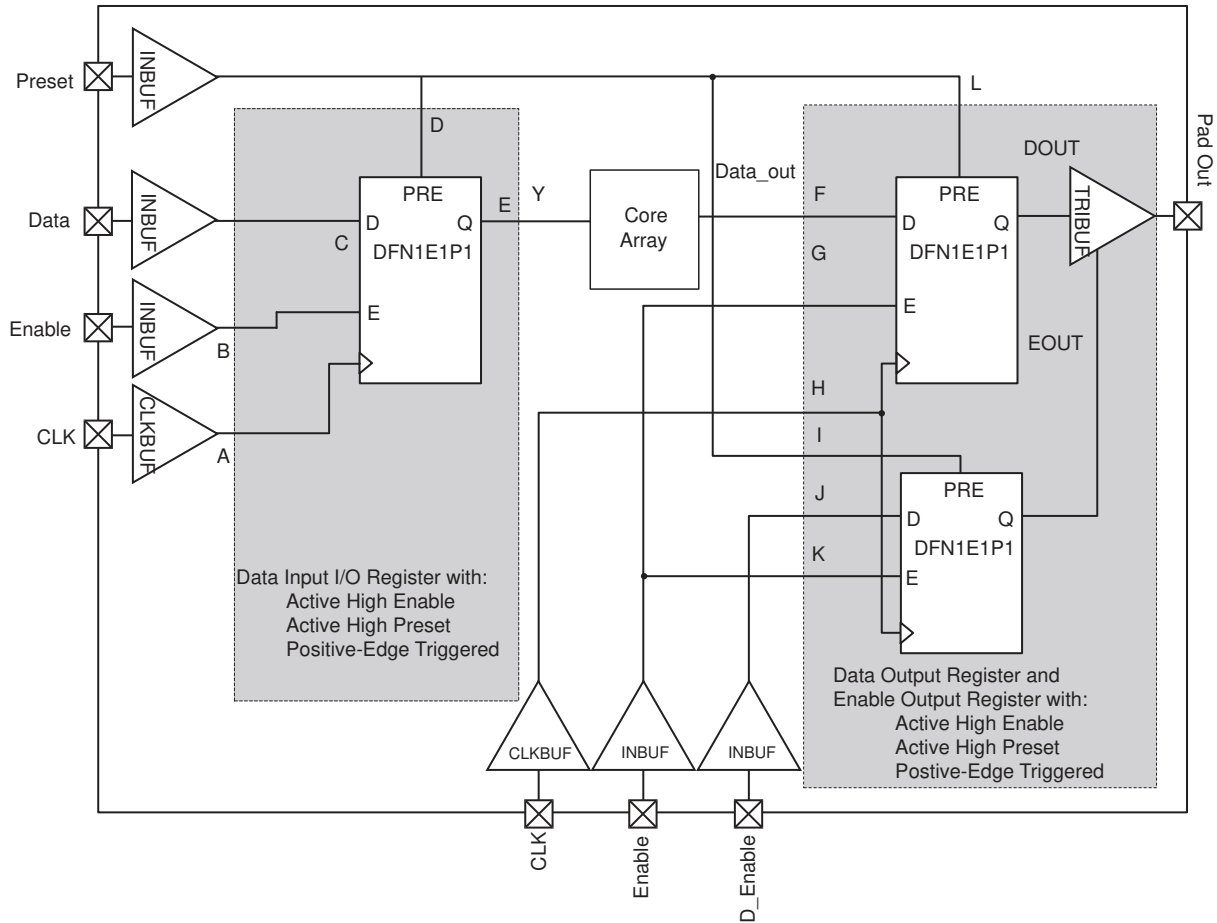

Figure 2-16 • Timing Model of Registered I/O Buffers with Synchronous Enable and Asynchronous Preset
*Note:* \*See Figure 2-16 on page 2-84 for more information.